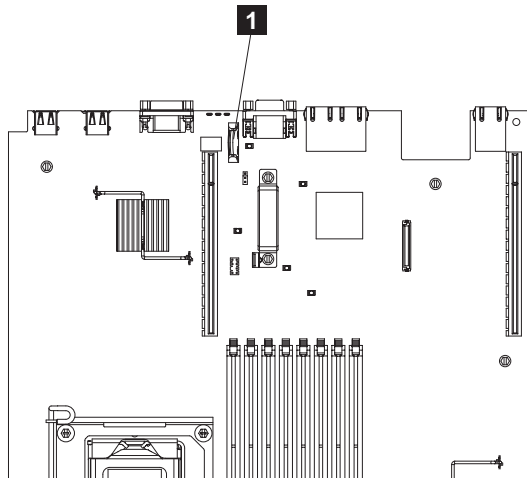

Figure 133. Location of the SAN Volume Controller 2145-CF8 CMOS battery holder
7. Locate the battery **1** on the system board. Figure 133 on page 153 shows the location of the battery.